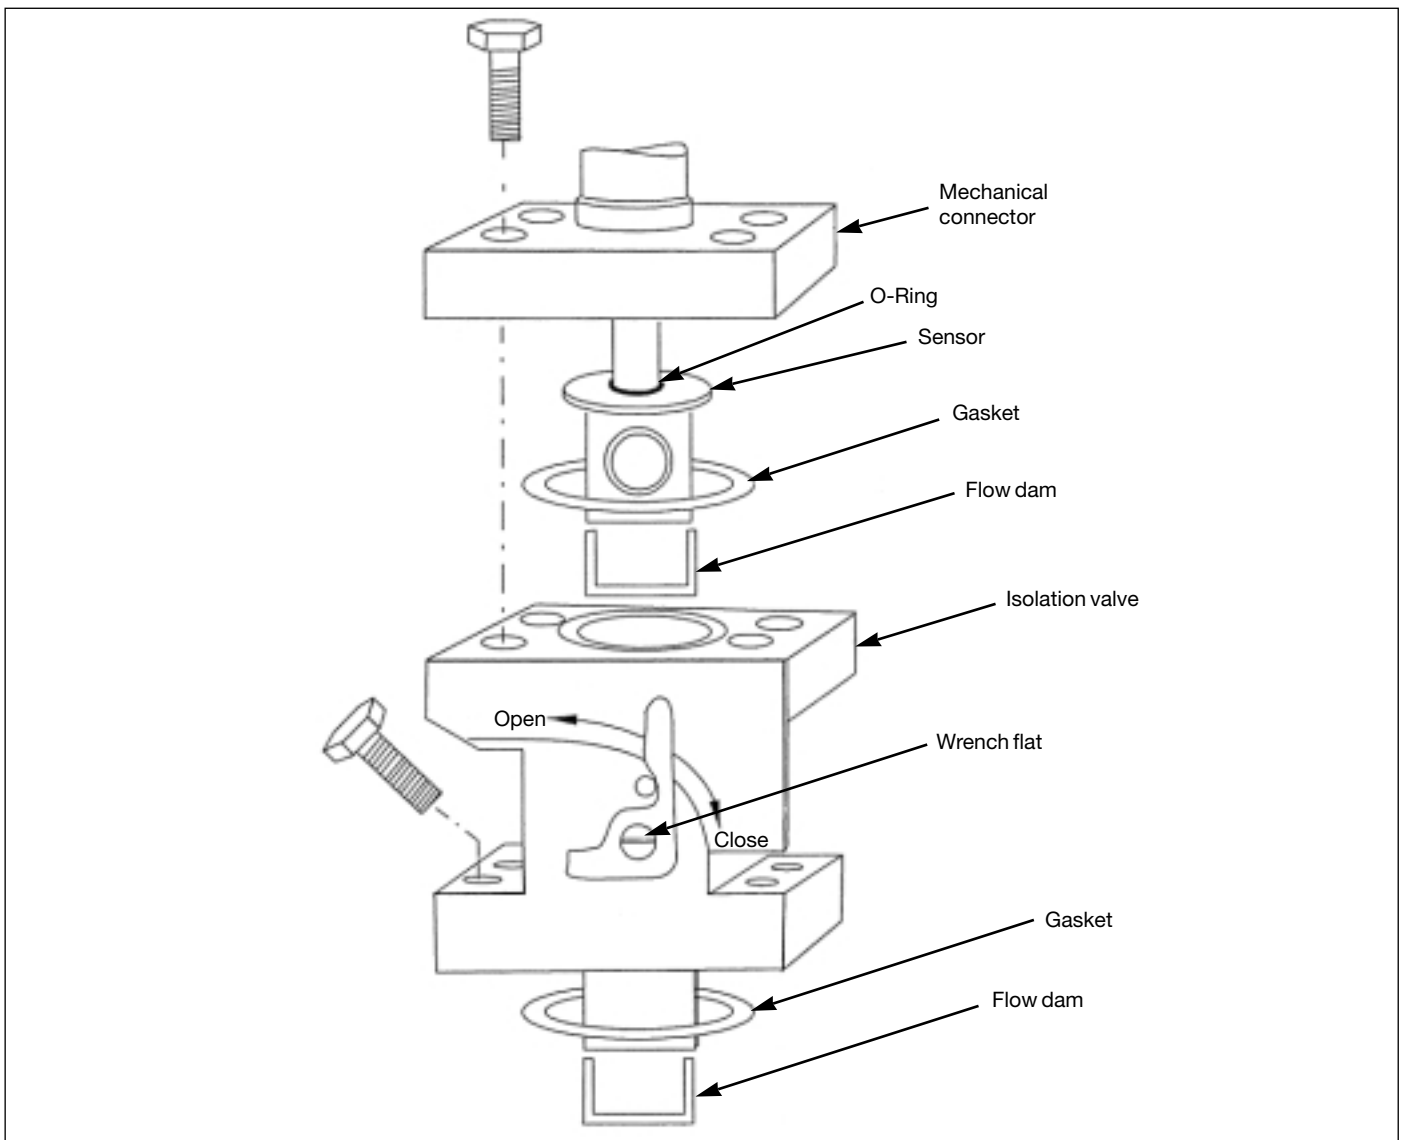
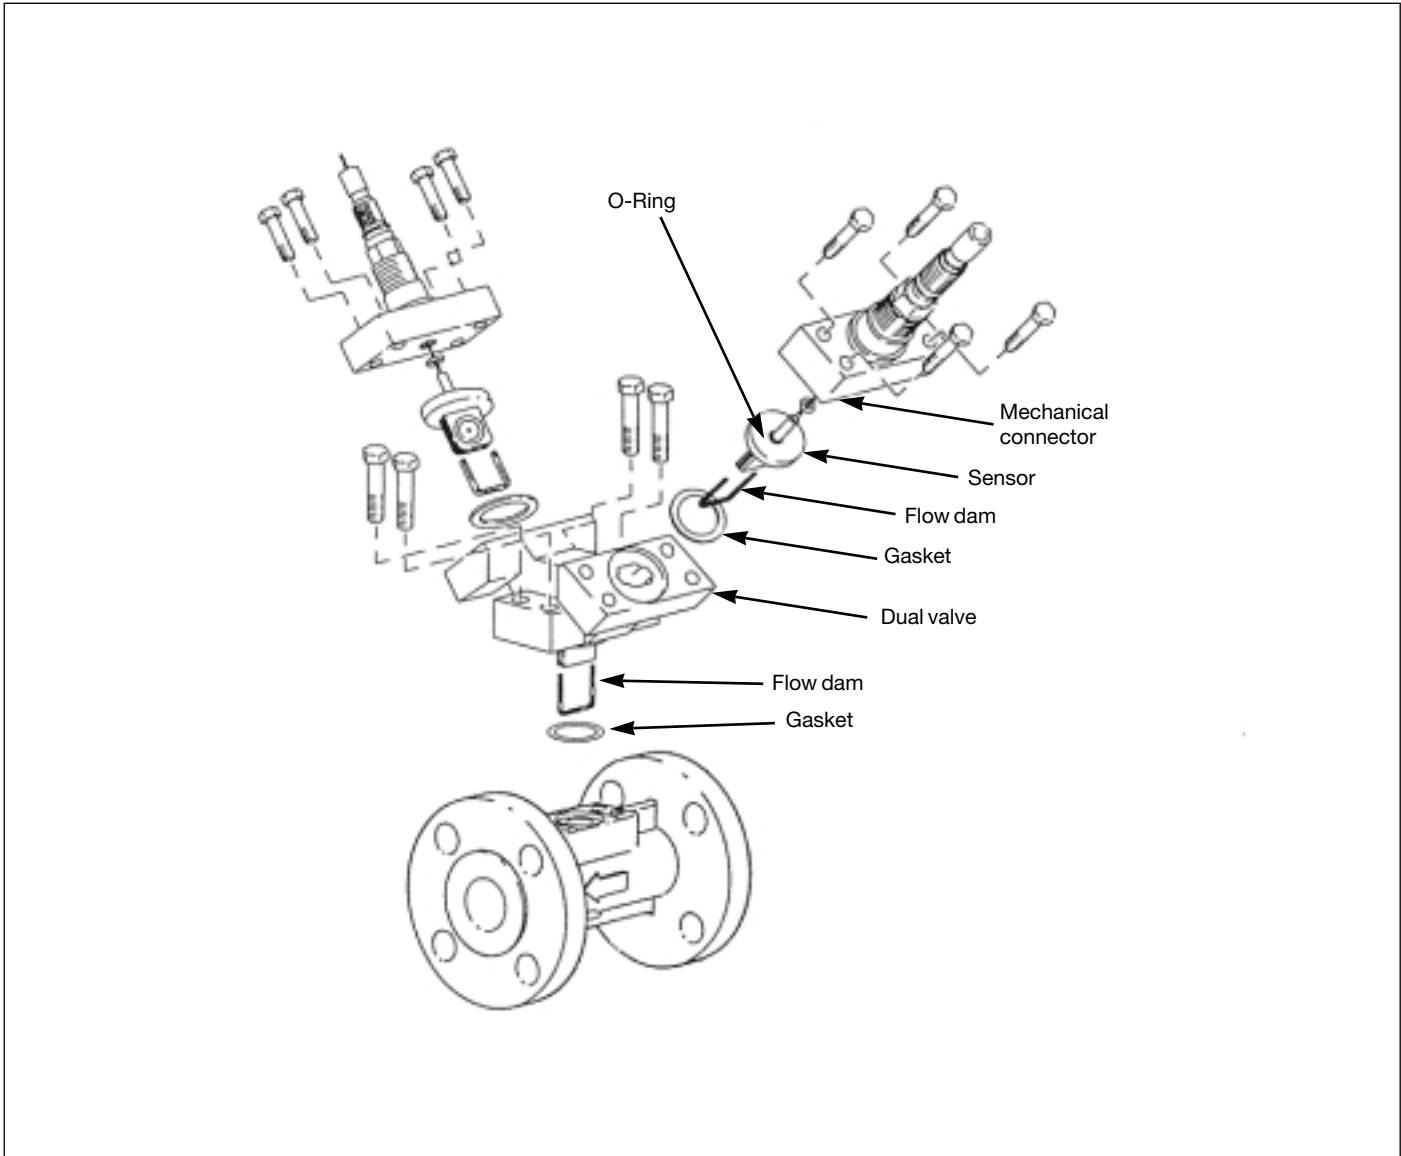

Figure 38. Isolation Valve
Figure 39. Dual Manifold
- Close the valve. This is a dual port, single ball 1/4-turn valve. Use a wrench on the flat on the valve stem to turn clockwise one quarter turn. See Figure 38.
- Remove and discard old gasket and flow dam. Install a new gasket and flow dam on the lower section of the valve body and assemble the valve into the VFM 3100 body. Refer to Figure 38 or Figure 39. These are the same gaskets and flow dams used with sensors. For standard range valves, use gasket L0121DT and flow dam L0112KT. For extended range valves, use gasket K0146HL and flow dam K0146HK.